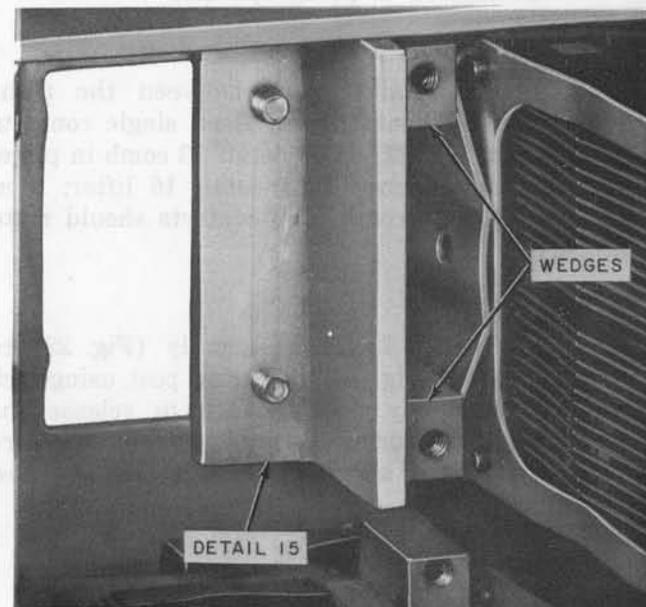

Fig. 21—Detail 15 Wedging Bracket in Place
- (a) Place detail 15 wedging bracket to the left of the defective relay (Fig. 21) so that the flat upright of the angle shall provide a backing for the details 20 through 30 wedges against the clamping spring of the defective relay. The 2-threaded holes of the wedging bracket shall align with the empty mounting holes on the left next to the defective relay. Insert the mounting screws from the rear and tighten.